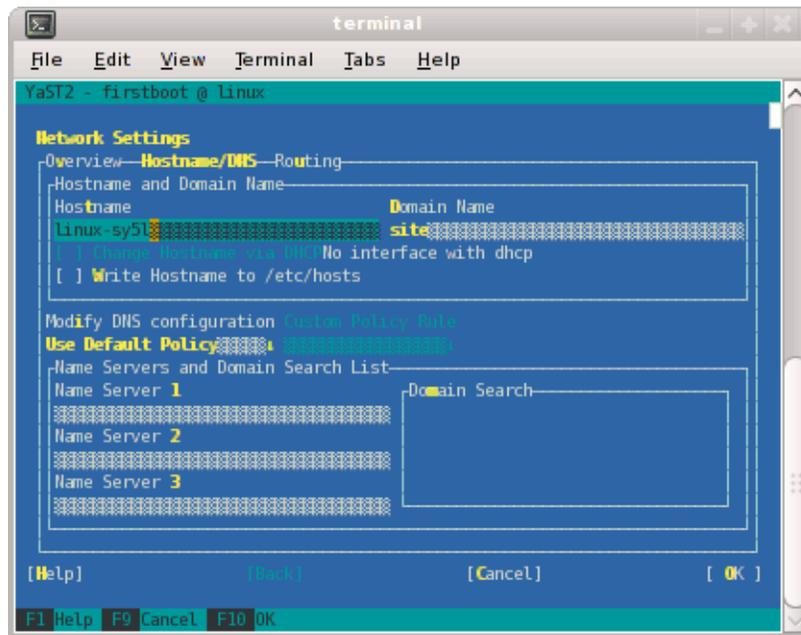

Figure 1-8 Network Settings Screen
9. At this point, you are back at the **Network Settings** screen as shown in Figure 1-8 on page 9. At this time, select **Hostname/DNS**. In this screen, you should enter your house/public network hostname and fully qualified domain names. In addition, any name servers for your house/public network should be supplied. Please select (ensure an x is in the box) for **Write hostname to /etc/hosts**. Do not select **OK** yet.